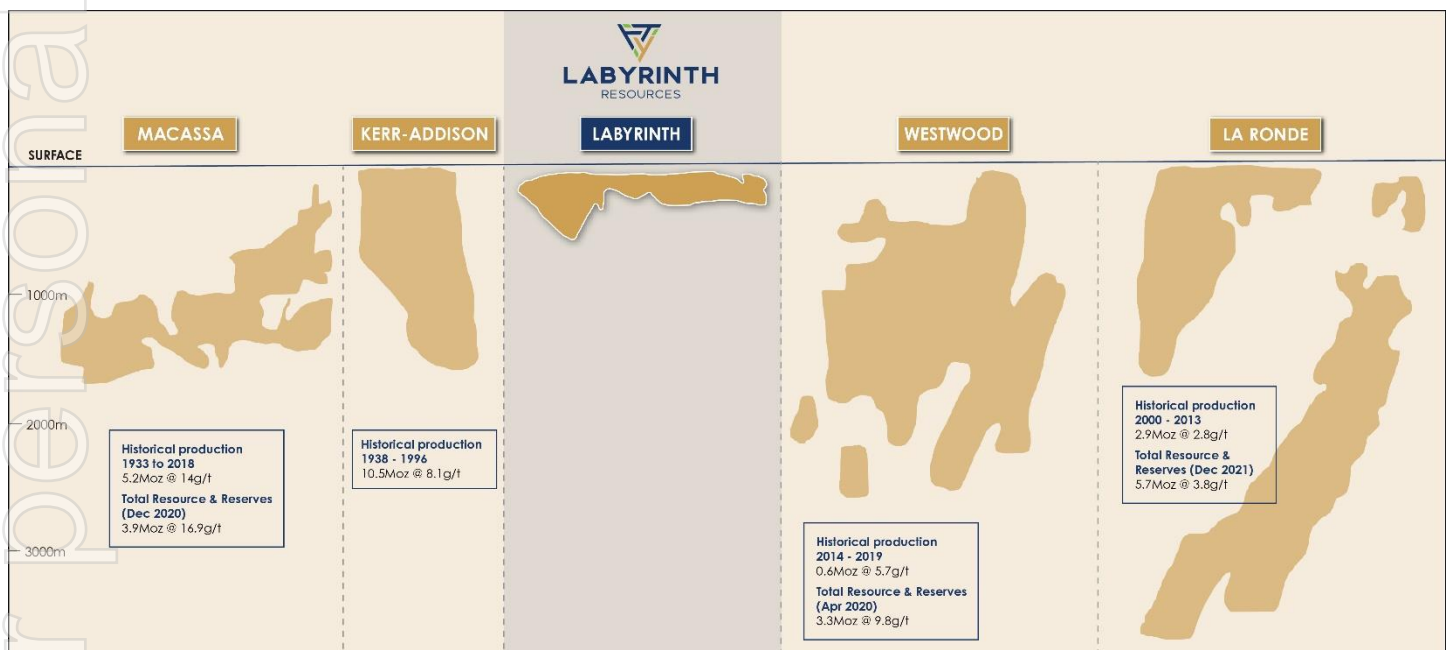

Figure 2 - Significant Gold Projects within 100km radius of Labyrinth1
- Labyrinth only shallowly drilled in comparison to other significant projects in the region which are host to multi-million ounce deposits (refer Figure 2)